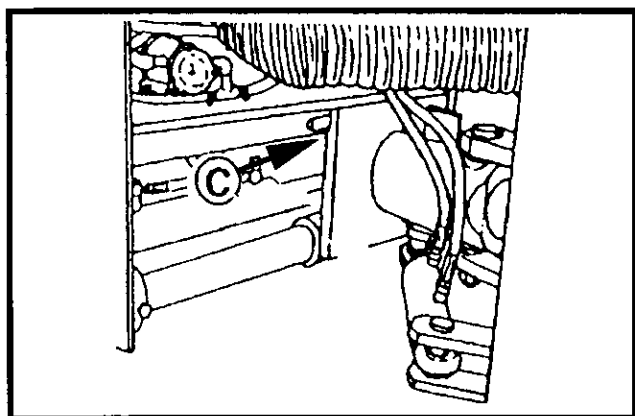
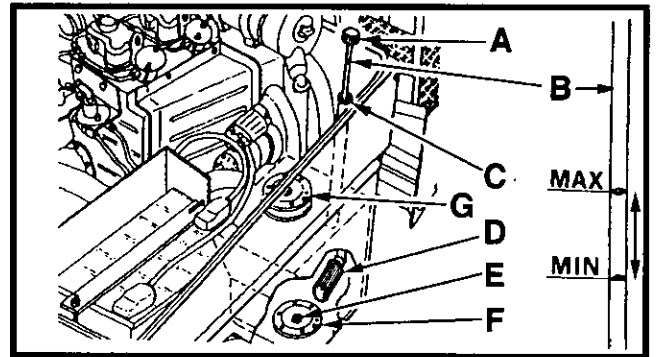

Figure 5-18 Drum Offset Guide Grease Point
Figure 5-23 Hydraulic Oil Tank, Dipstick
1. Clean the grease fitting ('C', Figure 5-18).
1. Check hydraulic oil level by viewing dipstick ('B', Figure 5-23) located on the hydraulic tank. The fill cap ('A', Figure 5-23) includes a dipstick to check the oil level.
3. If necessary, add fresh, clean (filtered through 10 micron filter) anti-wear hydraulic oil through the filler ('C', Figure 5-23). Bring to a full level. It is important to maintain the tank at a full level at all times. Refer to Section 8 - Fuel and Lubricant Instructions for details on hydraulic oil specifications.
*In the event that there is indication of contamination of the hydraulic system due to part failure or ingress of dirt into the hydraulic tank, then remove drain plug ('E', Figure 5-23) and the access cover ('F', Figure 5-18) and thoroughly clean out the tank interior. On later models fitted with the suction strainer/filter ('F', Figure 5-23), clean or replace this filter. Follow refill as above.*
## III. Clean Hydraulic Oil Return Strainer (G, Figure 5-23)